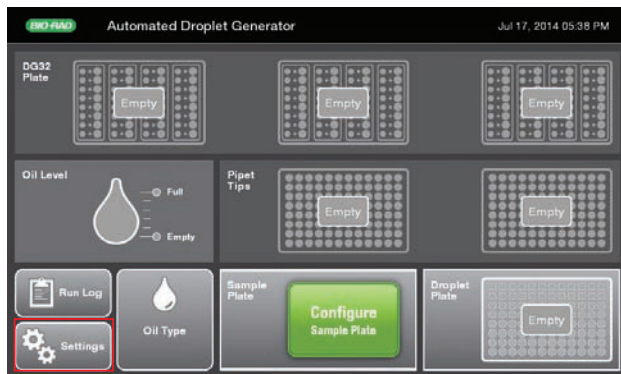

Fig. 33. Settings button on the home screen.
3. Touch **Settings** on the home screen. *Do not* select **Run Log** (Figure 33).